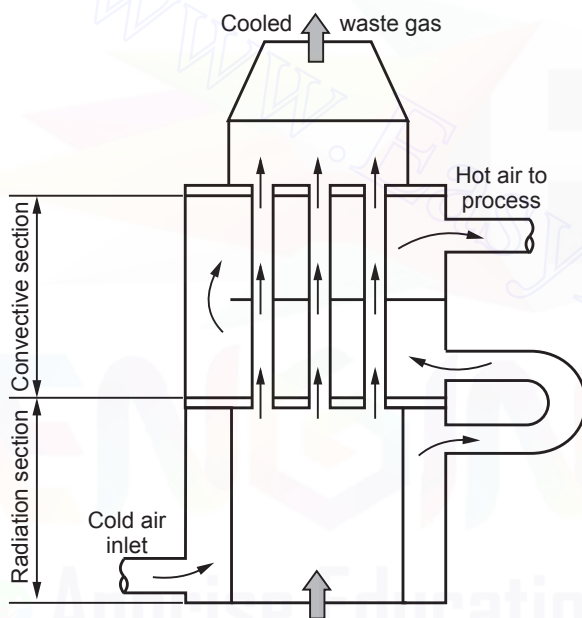

Fig. 4.8 Convective radiative recuperator
- As seen in the Fig. 4.8, the hot gases are carried through a number of parallel small diameter tubes, while the incoming air to be heated enters a shell surrounding the tubes and passes over the hot tubes one or more times in a direction normal to their axes.
- A convective/radiative hybrid recuperator is shown in Fig. 4.8.